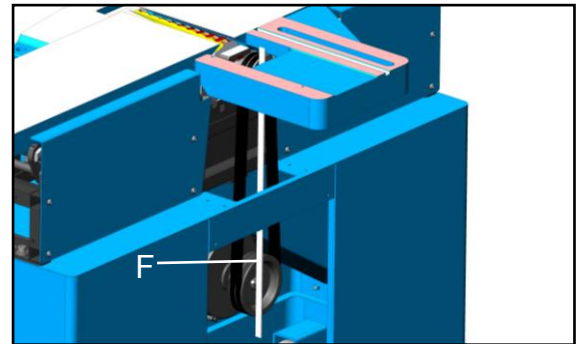

Fig. 28
5. Place a metal straightedge (F) across both pulleys Fig.28 to check the pulley alignment.